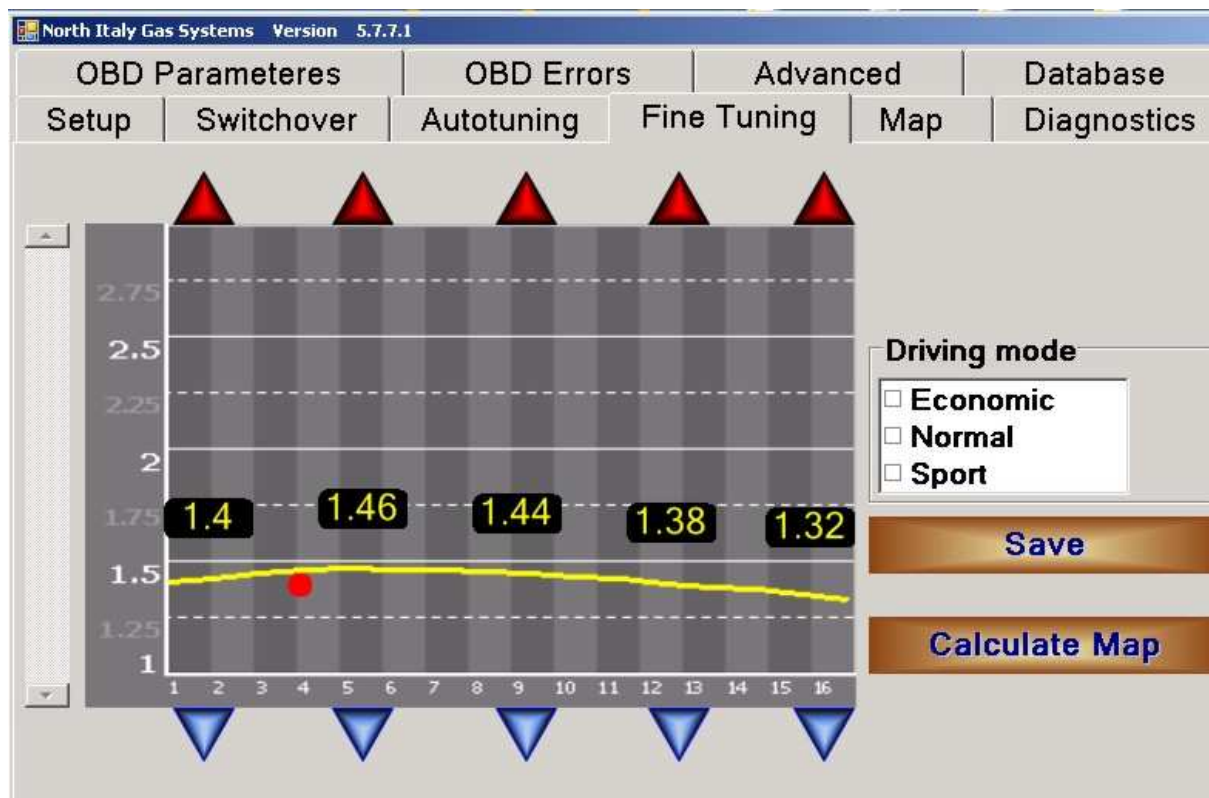

FIG.9
2. In the bottom square is shown the petrol injection time when the engine runs on LPG. You have to reach both values almost equal – it could be done by slider - changing the current coefficient, push the "SAVE" button to record into the ECU. For more precise adjustment you can do it by using the coefficients in the menu "Fine tuning" /FIG.9/ when the car is moving on different road types, to ensure more loads for the engine and speeds. In the menu you have push button "calculate map". This is the connection between the linear adjustment with coefficients and the 3-size map, which is table of coefficients, depending from petrol time and RPM. This button gives you possibility to switch from easy to more detailed adjustment. Driving the car with constant RPM and gas pedal (fixed TPS), you see the blue line on the petrol inj. time. You have to switch from petrol to LPG and move with arrows up or down current coefficient till the valve, when the petrol inj. time is equal on petrol and LPG running. The same procedure for different
petrol times will give you more precise adjustment. By arrows of the neighbour coefficients you have to adjust them so, the red curve is slight falling down to the high /FIG.9/.
From the "FINE TUNING" (FIG.9) menu use the checkbox labeled "Normal". On the screen you see coefficients; the working in each moment is colored in RED point. Ensure permanent load, RPM and throttle position (gas pedal) switch-over from "Petrol" to "LPG" and if the petrol injector times are changing, correct the colored in blue coefficient simultaneously with switching over. If the petrol time when turn over from "Petrol" to "LPG" is increased you have to increase the coefficient and vice versa till you reach the equality of these petrol times. It is recommended to use this procedure for more load conditions of the engine (at least 6-10). If you didn't manage to cover all driving modes using the arrows adjust all uncalculated coefficients near to the calculated ones. Looking over the curve, you'll try to make this curve smoother.